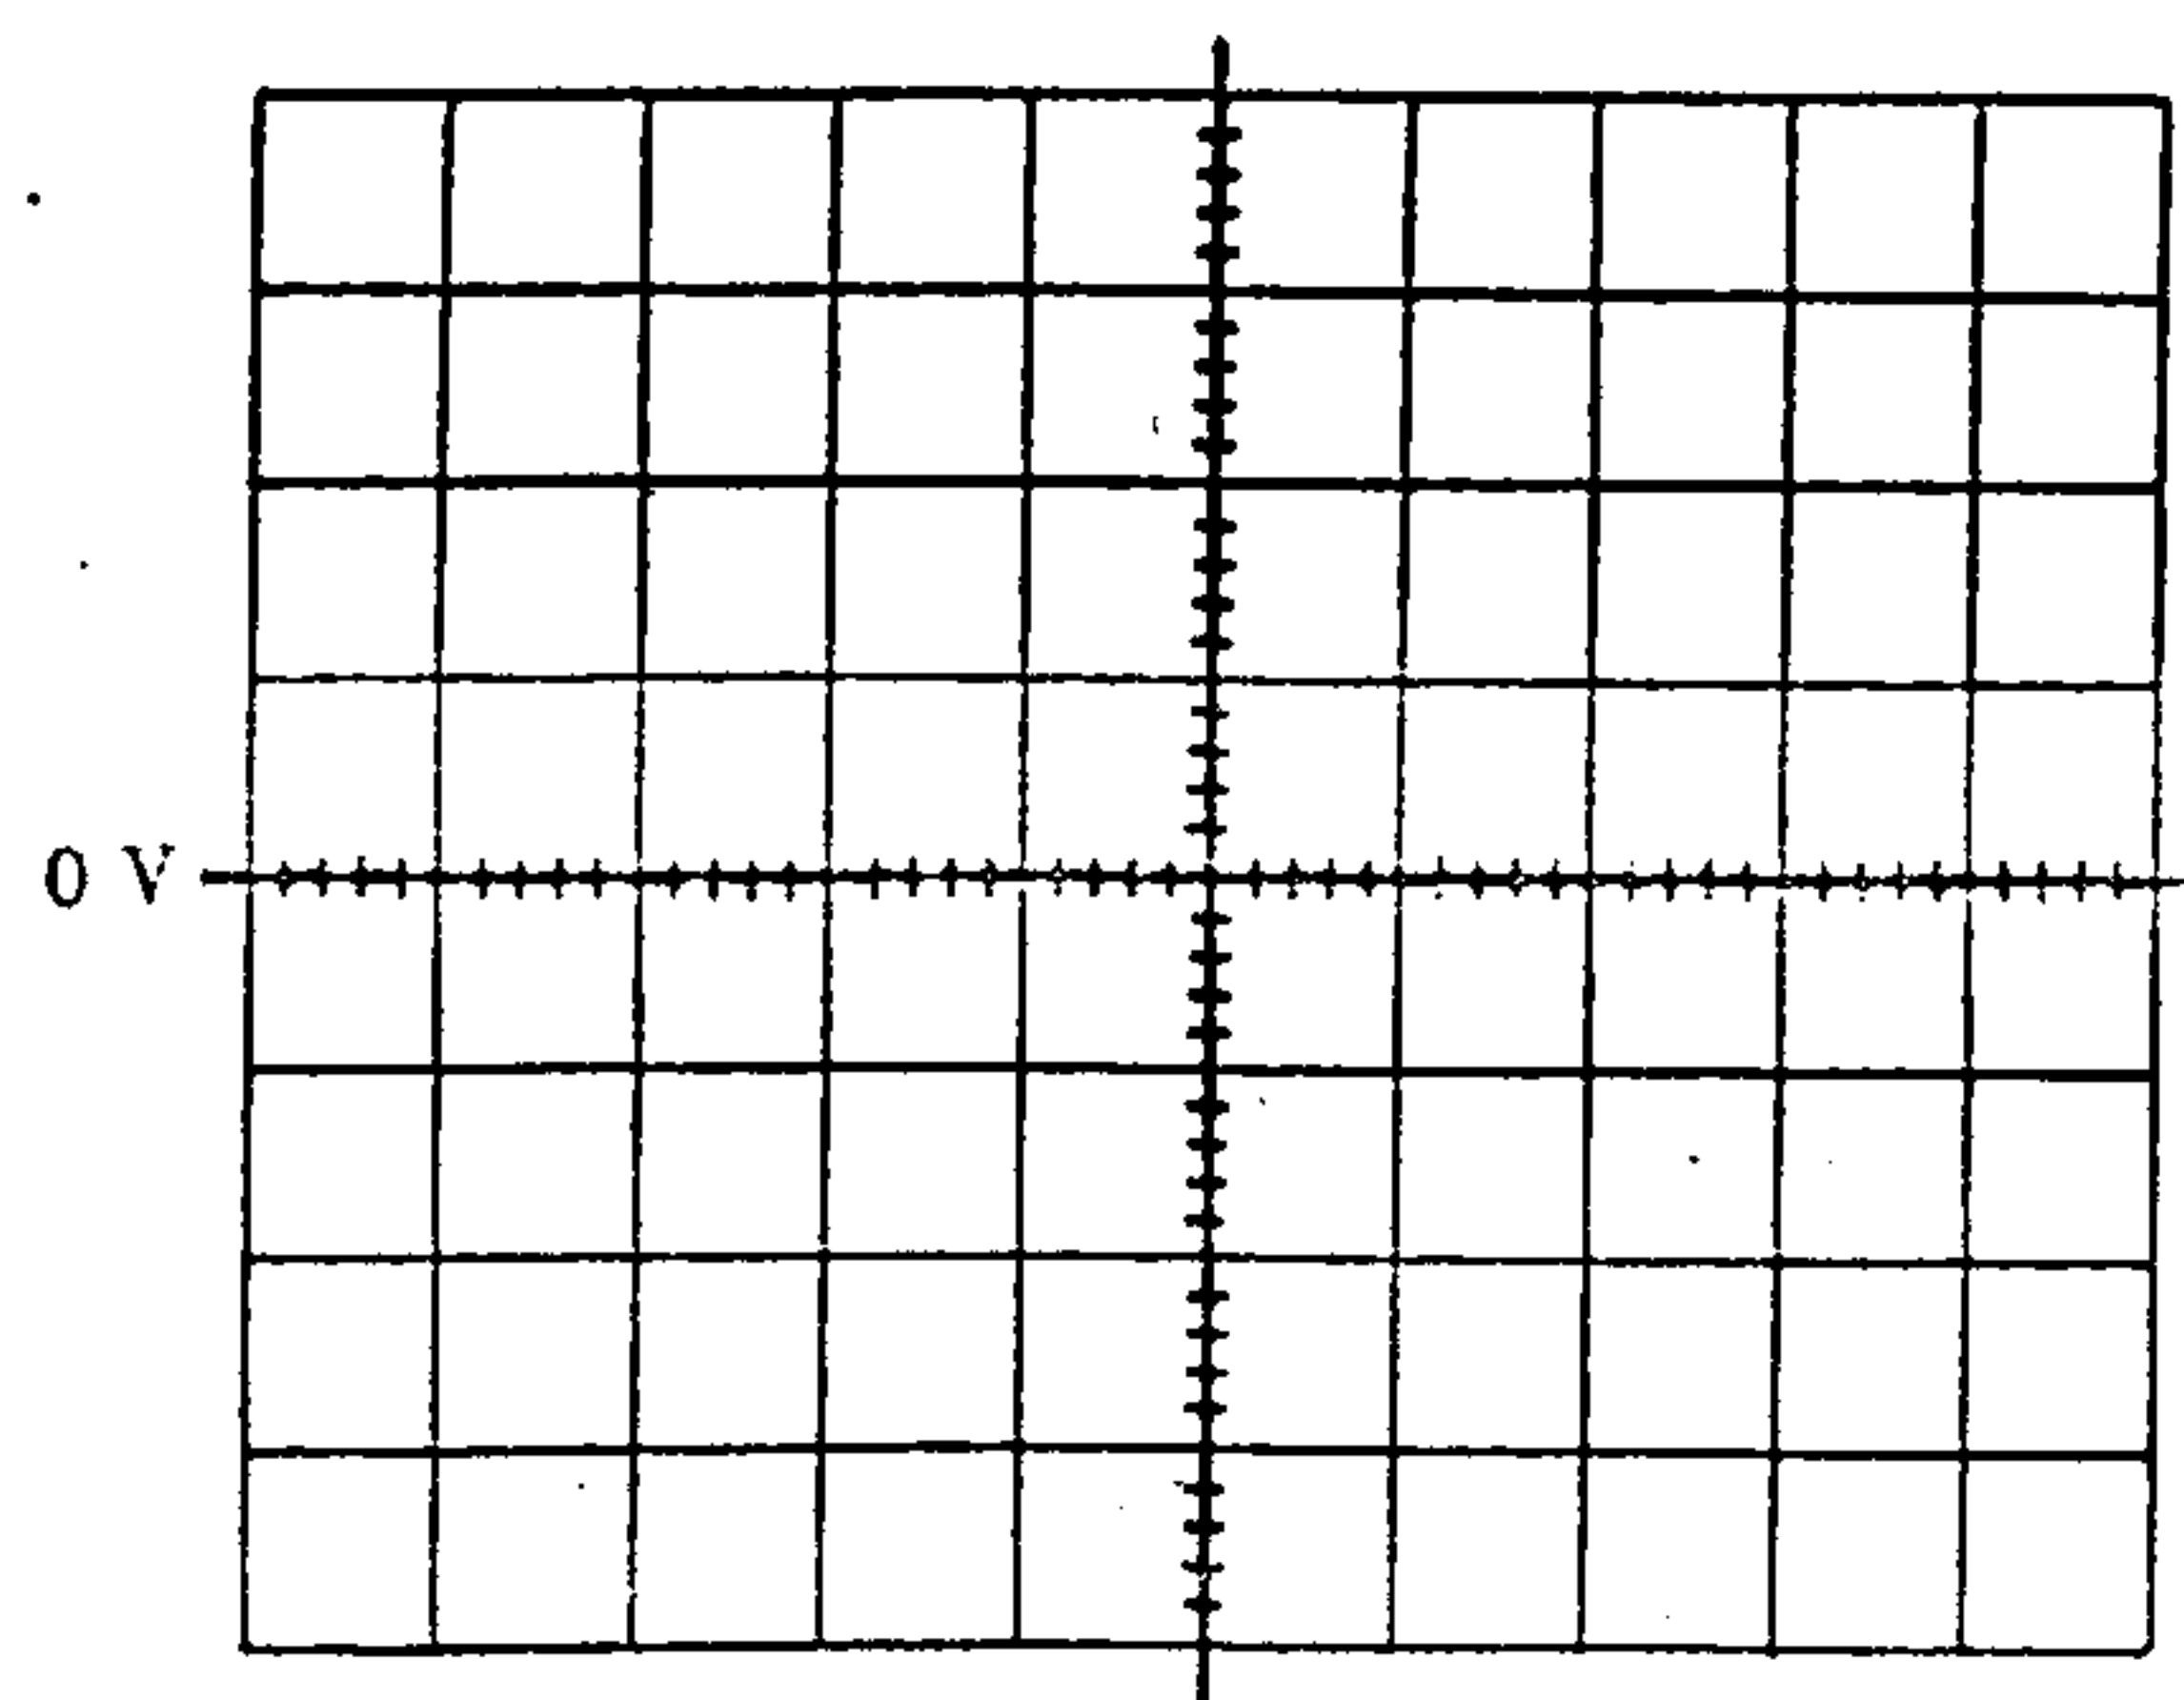
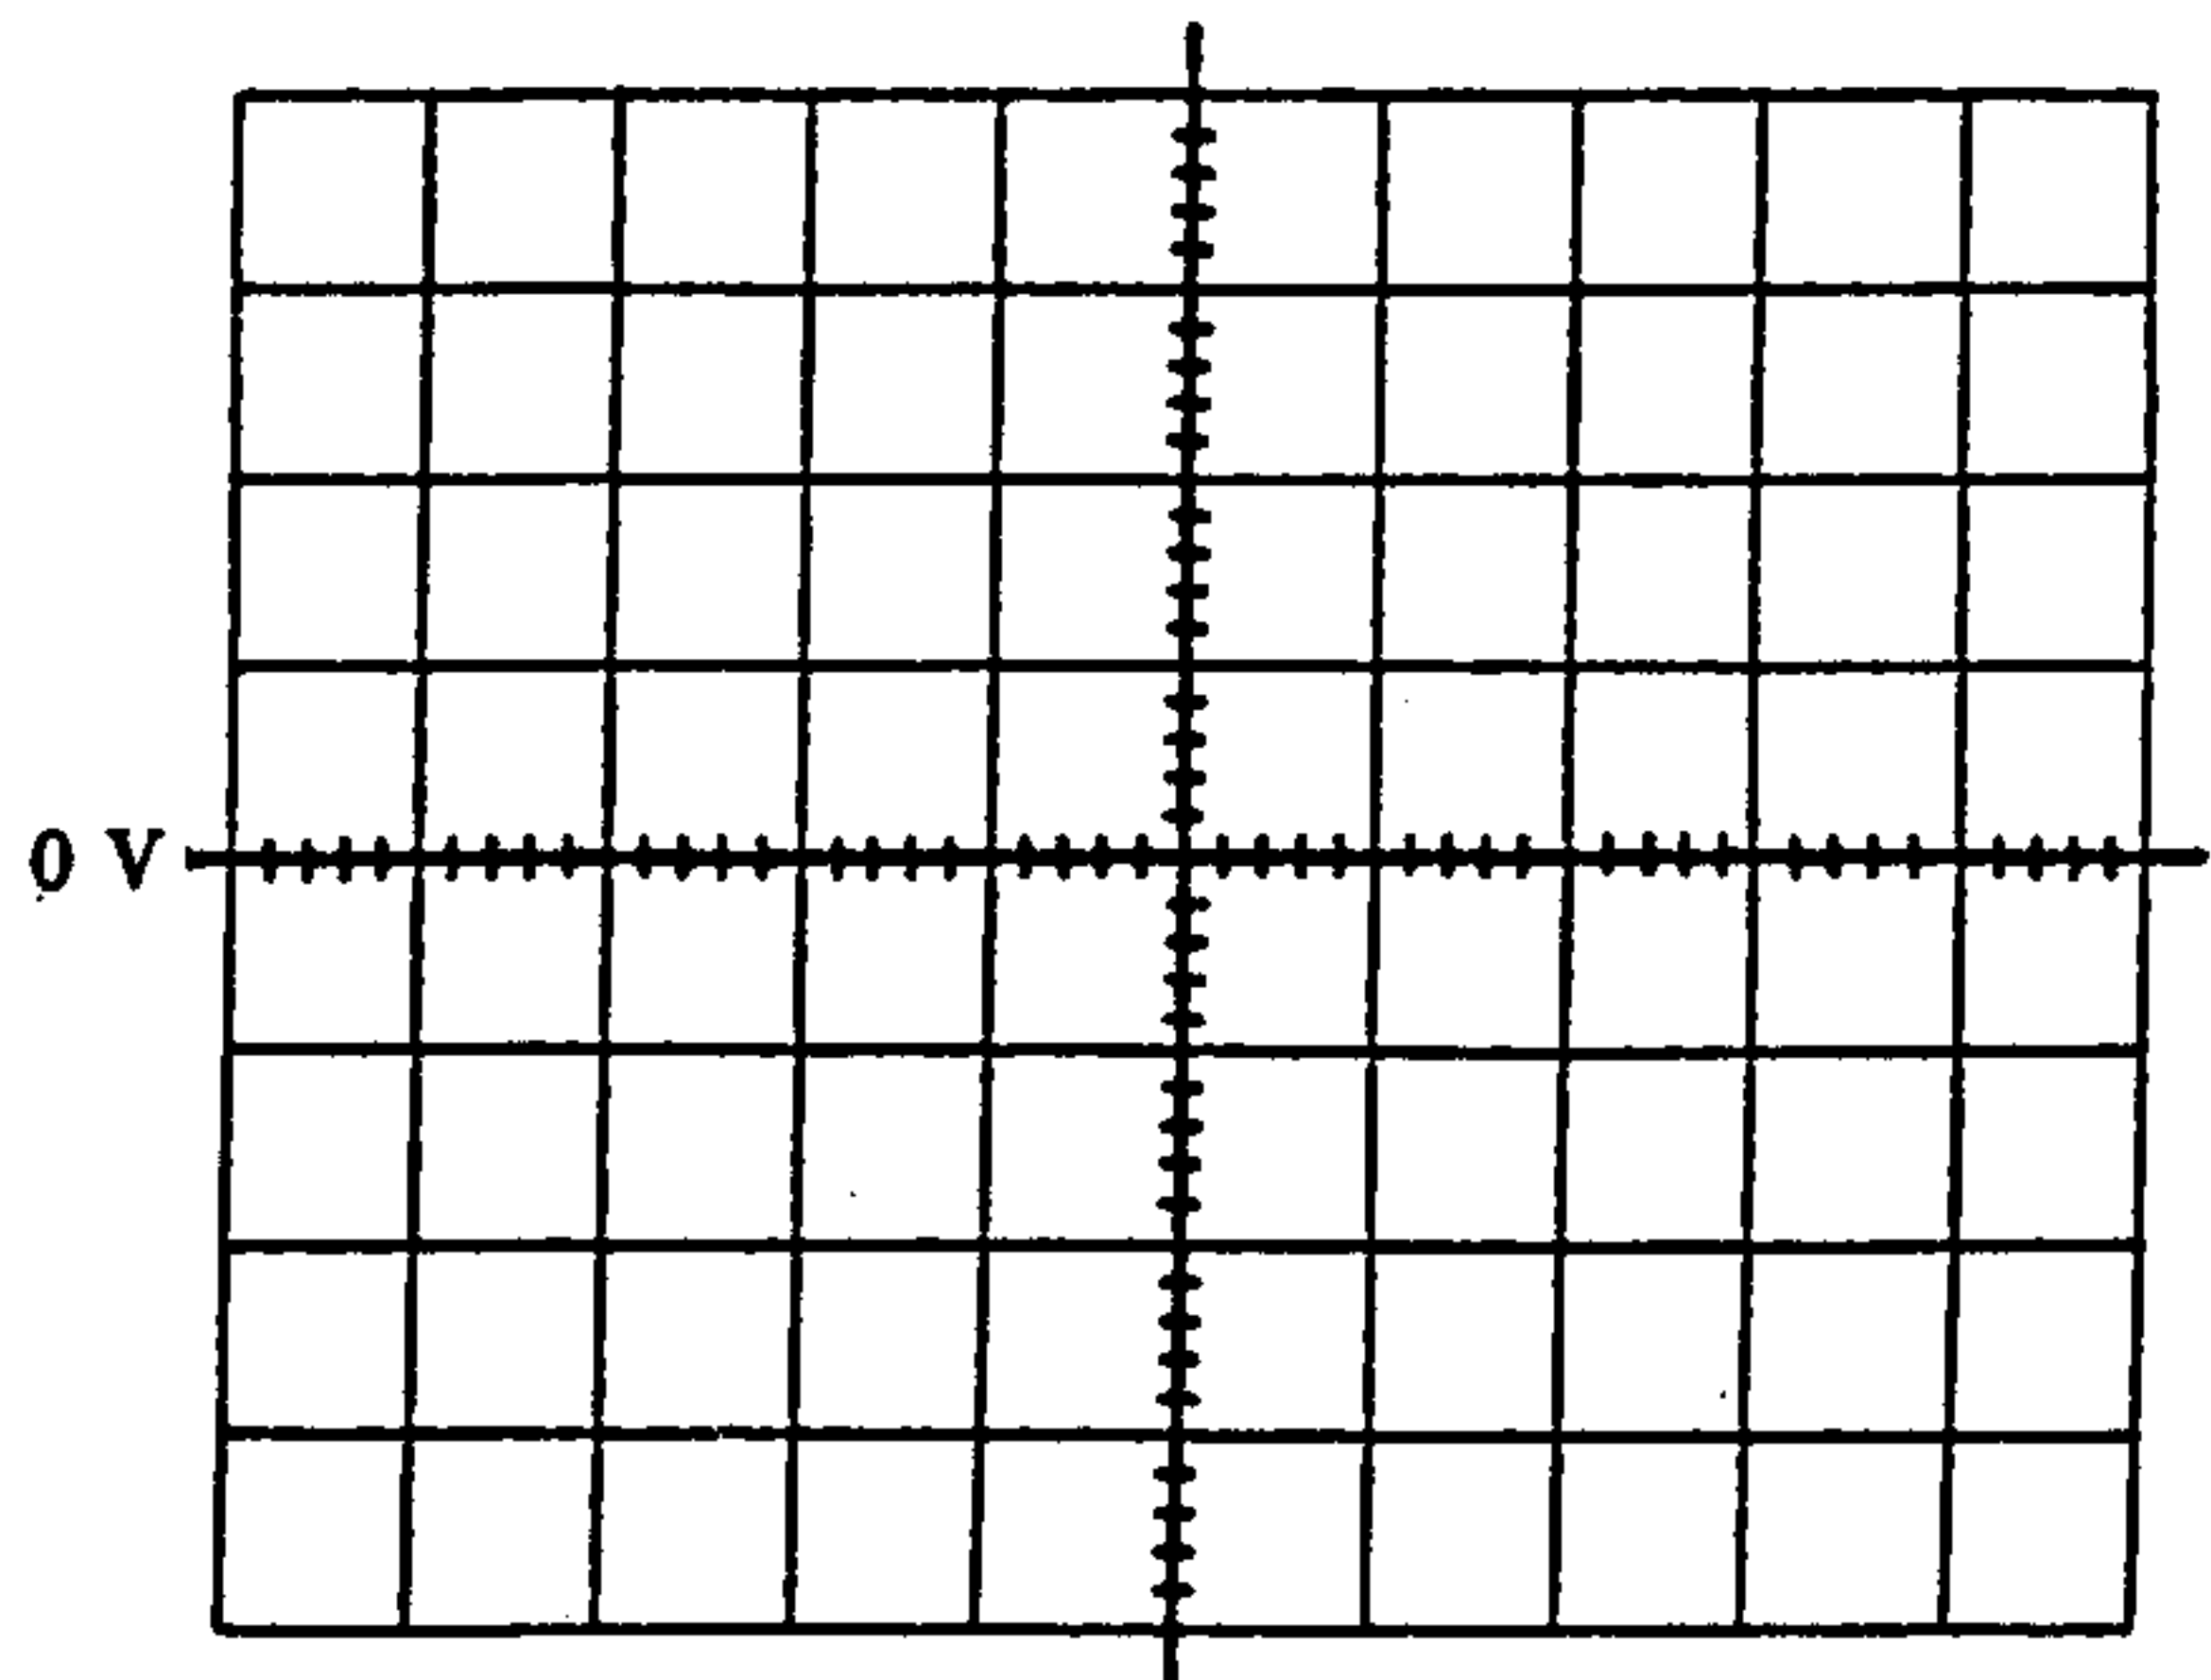

Figure 6-11
Figure 6-12
- b. Using the results of Parts 1 and 2 and any other analysis technique at your disposal, sketch the expected output waveform for  $v_o$  on Fig. 6.11. In particular find  $v_o$  when  $v_i$  is its positive and negative peak value and when  $v_i = 0$  V. Record the chosen vertical and horizontal sensitivities below:
- c. Using the sensitivities of Part 4(b) use the oscilloscope to view the output waveform  $v_o$ . Be sure to preset the  $V_o = 0$  V line on the screen using the GND position of the coupling switch (and the DC position to view the waveform). Record the resulting waveform on Fig. 6.12.
How does the waveform of Fig. 6.12 compare with the expected waveform of Fig. 6.11?